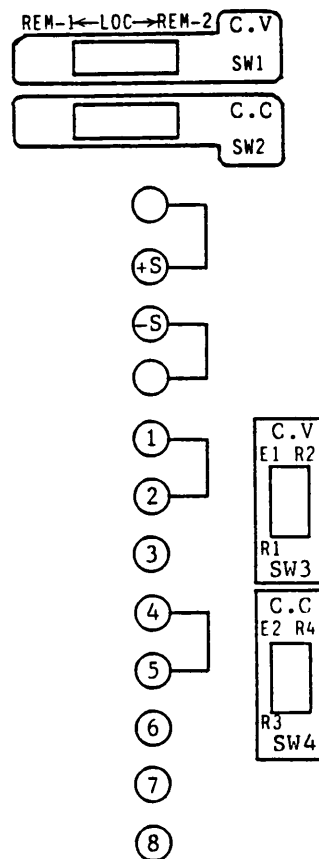

Figure 2-5
- Confirm that the jumpers of the rear terminal block are connected as shown in Figure 2-5 (when the power supply is operated in the regular conditions).